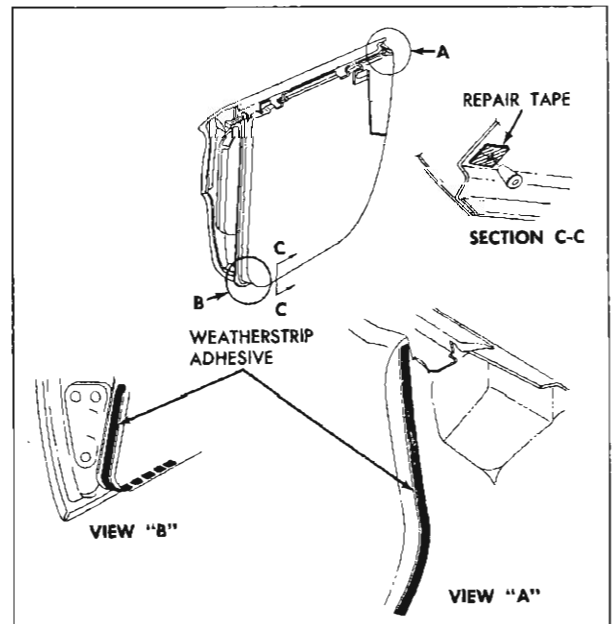

Fig. 34—Rear Door Weatherstrip Adhesive Application
3. Carefully break cement bond securing weatherstrip to door. A flat-bladed tool, such as a putty knife, will prove helpful in breaking cement bond (fig. 34).
2. Inspect all attaching clip sealing plugs. Any missing plugs should be replaced. A plug which is loose and will not remain engaged in the door panel piercing can be corrected by installing a 1/2" by 1" piece of cloth-backed waterproof tape over piercing and making an "X" pattern slit in tape to accommodate sealing plug. If, after this operation, the plug is still loose; install a second piece of tape over the existing repair. This procedure can also be used to repair any waterleaks that develop at sealing plug locations. A damaged sealing plug must be replaced (see Section "D-D" in Figure 34).
3. Clean off old cement from door to insure a clean cementing surface. Apply a bead of an approved weatherstrip adhesive to lock pillar facing of door and at lower front corner of door (see Views "B" and "C" in Figure 34). When applying weatherstrip adhesive to lock pillar facing of door, begin application at belt line and continue down door for approximately seven to nine inches. If necessary, weatherstrip adhesive can also be applied to hinge pillar facing of door.